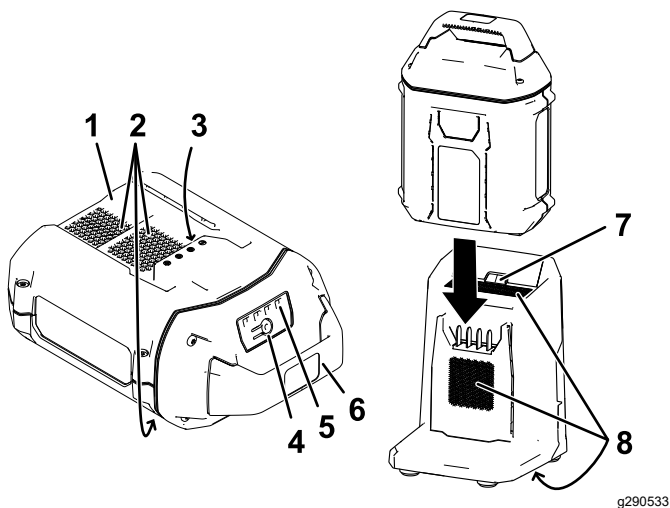

**Figure 26**
- Line up the cavity in the battery pack (Figure 26) with the tongue on the charger.
- Slide the battery pack into the charger until it is fully seated (Figure 26).